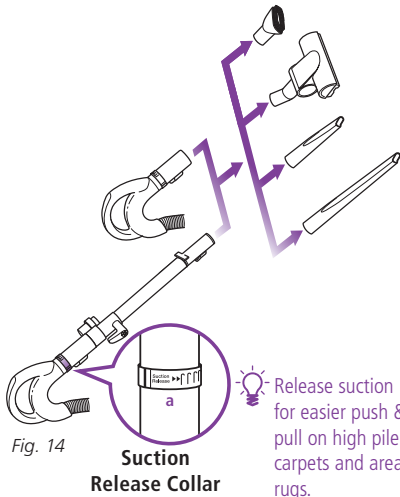

Fig. 14
- 2 Attach desired accessory onto the end of either the extension wand or the handle. (Fig. 14)
- 3 **Your vacuum has tremendous suction power. Adjust the amount of suction with the suction release on the handle. Open the valve (a) by rotating the collar 90° counterclockwise for low suction when doing light jobs such as drapes or fine surfaces. Close the valve (a) by rotating the collar clockwise 90° for high suction and when using the hand held turbo brush. (Fig. 14)**